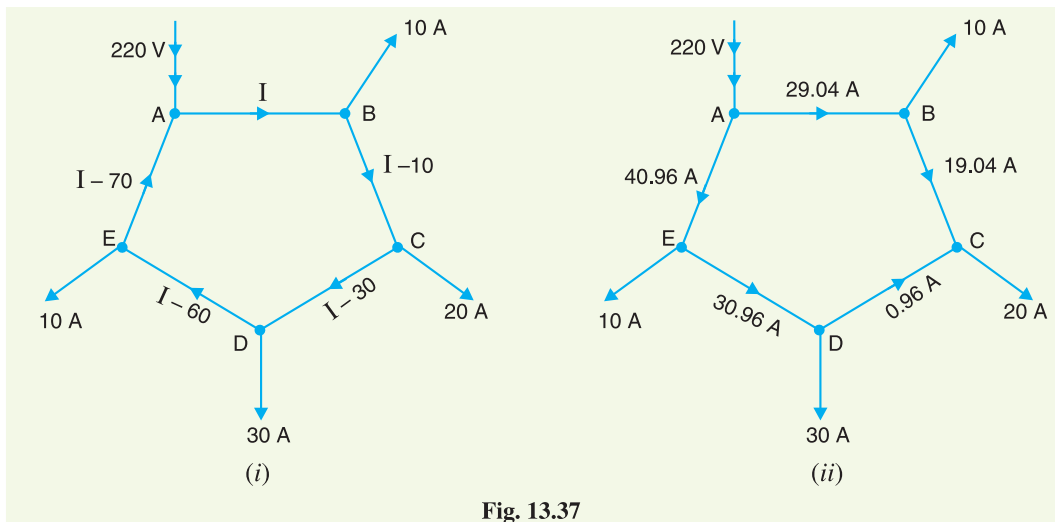

Fig. 13.37
**Solution.** Fig. 13.37 (i) shows the ring main distributor. Let us suppose that current  $I$  flows in section AB of the distributor. Then currents in the various sections of the distributor are as shown in Fig. 13.37 (i).
The actual distribution of currents is as shown in Fig. 13.37 (ii) from where it is clear that C is the point of minimum potential.